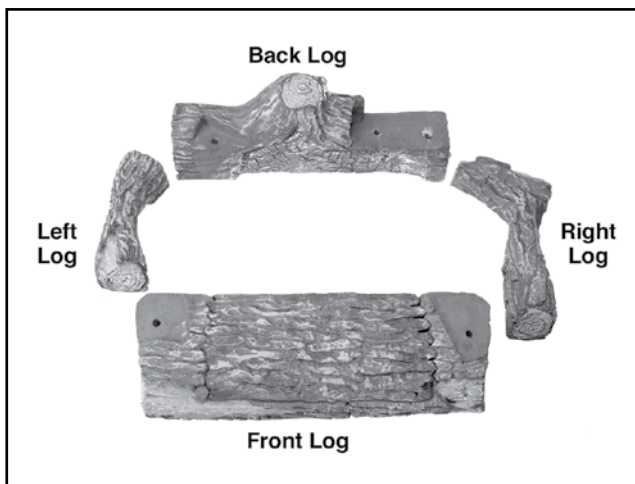

Figure 3
- Four (4) ceramic fiber artificial logs (Figure 3).
- Two (2) appliance base screws inside a small bag.